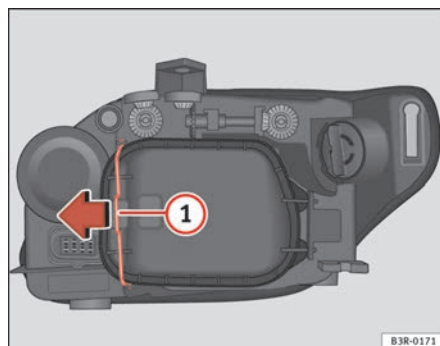

Fig. 193 Dipped head-
Although it is not necessary, previously remove the rigid cover ⇒ page 254, fig. 193 for easier turn signal bulb changes. ■
- Move the brace ⇒ fig. 193 ① in the direction of the arrow and remove the rigid cover, separating the brace side and then removing the two tabs from the other end of the cover.